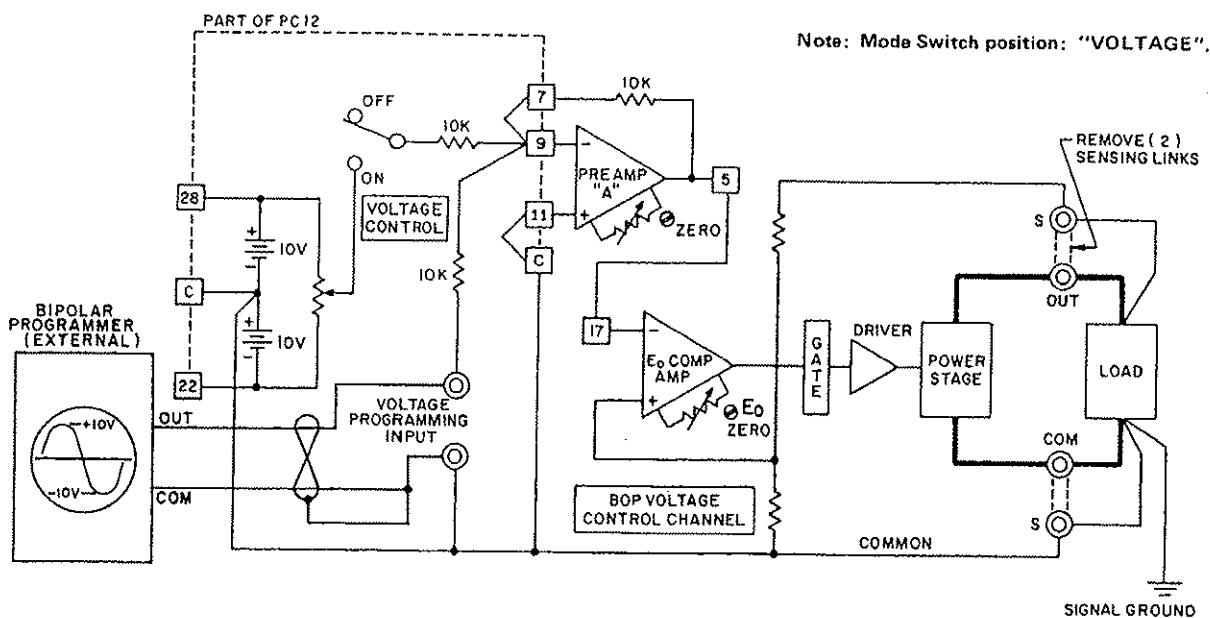

FIG. 3-9 BASIC PROGRAMMING CIRCUIT FOR USE OF THE BOP AS A BIPOLAR AMPLIFIER (VOLTAGE MODE)
- 3-25 The basic programming circuit with which the wave forms shown in FIG. 3-8 can be produced is shown in FIG. 3-9. Since all input signals in FIG. 3-8 are shown with a ± 10 volt amplitude, the basic programming circuit in FIG. 3-9 must be modified if the external signal source cannot produce 10 volts and if the full BOP output voltage swing is required.